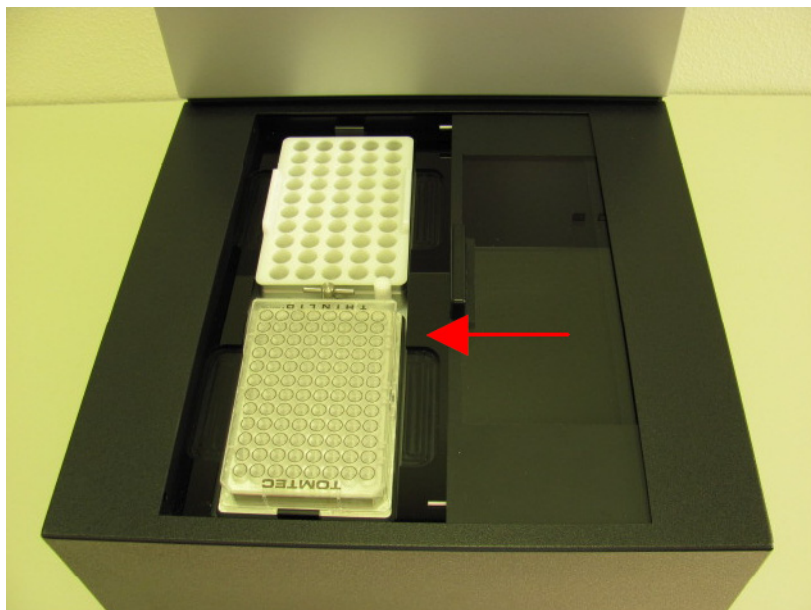

Figure 4-17: Vial holder installed in buffer tray (back) and plate holder installed in sample tray (front).
5. Vial and plate holders can now be placed on the adapters (Figure 4-17).